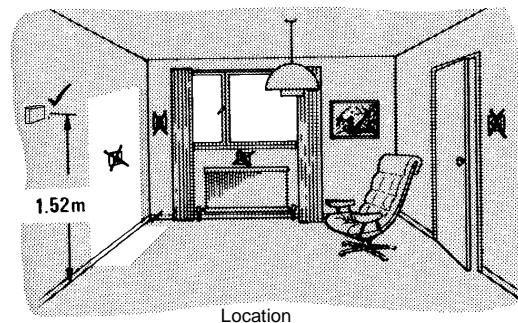

Fig.1
- Select a location for the sensor which is representative of the space to be controlled and where it will be readily affected by changes in the general space humidity and temperature level. The sensor location should also be reasonably clean and free from damp and condensation - see Fig.1.